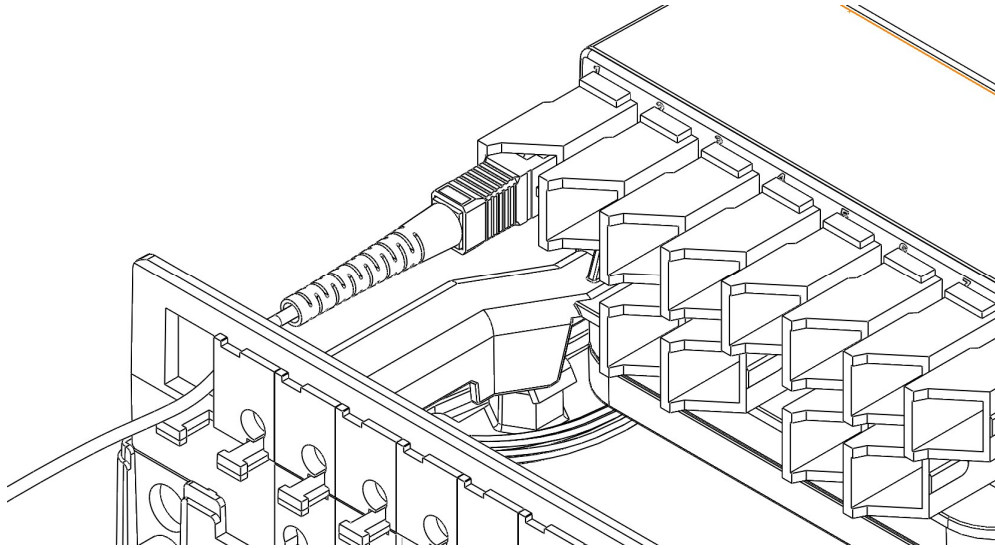

Fig. 29
4.6.5. Insert the connector into the appropriate adapter (Fig . 29);